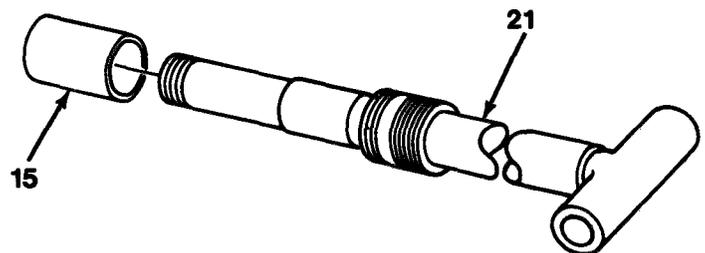

Figure 13-7
14. Remove spacer (15) from rod assembly (21, Figure 13-7).